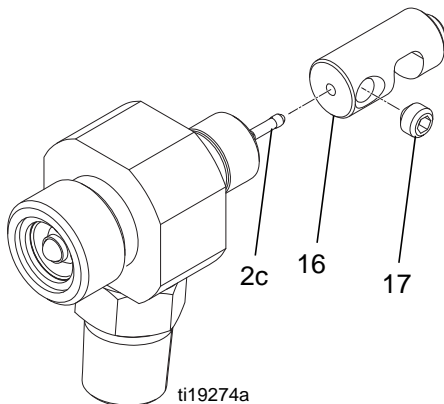

FIG. 9
- While supporting the spring guide (16) to prevent bending the needle (2c), loosen the setscrews (17) then remove the spring guide (16). See FIG. 9.